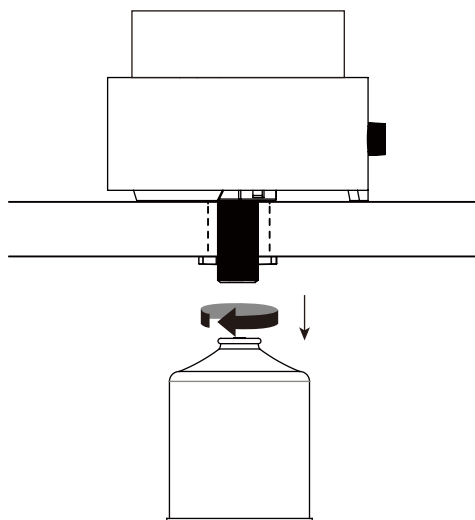

Figure 6
- (1). Turn the control knob to the “OFF” position.
- (2). Rotate cylinder counterclockwise until it is loose (see Figure 6).
- (3). Remove the cylinder.
- (4). Store the cylinder in a proper location.
- (5). Place the protective cap cover on the cylinder and store the cylinder outdoors in a well ventilated area out of direct sunlight.